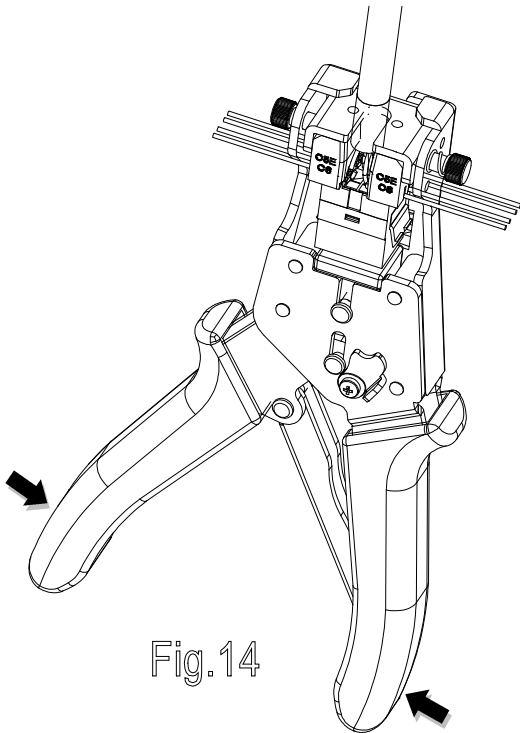

Fig.14
5.2.5 While holding the jack against the wires push the Termination Head to the left and pivot it 90° into the tool. Start to close the tool handles (Fig. 14)